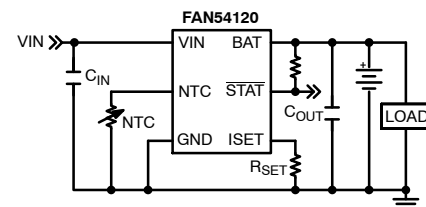

Figure 1. Typical Application
NOTE: The Recommended Operating Conditions table defines the conditions for actual device operation using the circuit of Figure 1, with the Recommended External Components shown in Table 2. Recommended operating conditions are specified to ensure optimal performance to the datasheet specifications. On Semiconductor does not recommend exceeding them or designing to the Absolute Maximum Ratings.
**Table 7. ELECTRICAL CHARACTERISTICS** (Unless otherwise specified, circuit of Figure 1 with  $V_{IN} = 5.0$  V,  $V_{FLOAT} = 4.2$  V,  $V_{BAT} = 3.9$  V,  $R_{SET} = 1.0$  k $\Omega$ , over recommended  $T_A$  operating temperature range. Typical values are at 25°C.)
**Table 7. ELECTRICAL CHARACTERISTICS** (Unless otherwise specified, circuit of Figure 1 with  $V_{IN} = 5.0\text{ V}$ ,  $V_{FLOAT} = 4.2\text{ V}$ ,  $V_{BAT} = 3.9\text{ V}$ ,  $R_{SET} = 1.0\text{ k}\Omega$ , over recommended  $T_A$  operating temperature range. Typical values are at  $25^\circ\text{C}$ .) (continued)